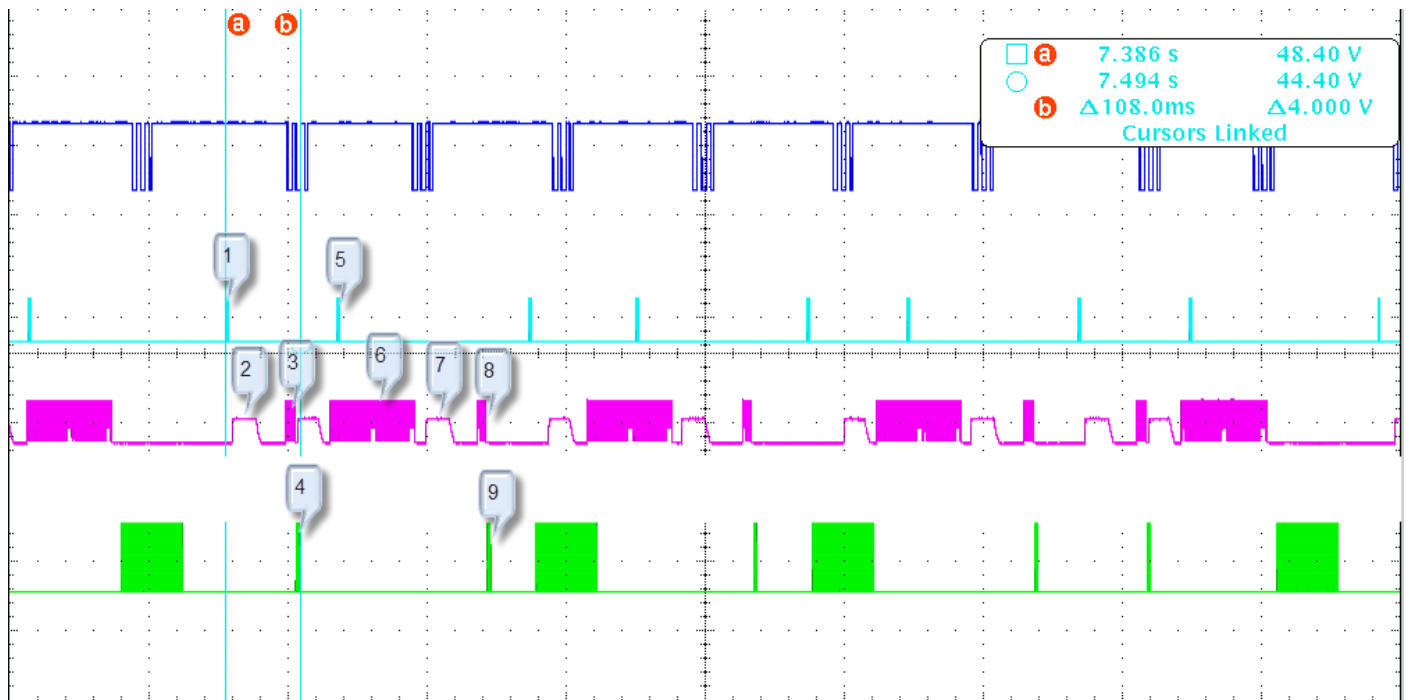

Figure 4-12 – Multiple INC/DEC during real-time
The latency introduced in the downlink of a therapy command depends on the relative timing of when the command is sent by the Host. If the command is received by the Nexus-D System while a real time telemetry command is in progress, then the Nexus-D System must wait for that command to finish which could take up to 150ms. If the Host sends the command within the wait period for the next real time telemetry command (i.e. less than 100ms after the Host received the last uplink), then the latency is minimal (See Figure 4-12 – Multiple INC/DEC during real-time).
In the example shown in Figure 4-12 – Multiple INC/DEC during real-time, (1) an INC Amplitude command is sent from the Host to the Nexus-D System with a single step and no repeats. (2) The command is sent from the Nexus-D System to the Activa PC+S. (3) the response is sent from the Activa PC+S to the Nexus-D System. (4) The response is sent from the Nexus-D System to the Host. Notice that the time from the Host sending the command (1) to the Host receiving the response (4) is 108ms. Then the Host sends a second INC amplitude command (5), but the Nexus-D System is busy receiving the next real-time packets from the Activa PC+S (6). When the real-time packet has been received by the Nexus-D System, it sends the INC amplitude command to the Activa PC+S (7). The INC amplitude response is received by the Nexus-D System (8). The INC amplitude response is sent to the Host (9). For the second INC, the time from the Host sending the command (5) to the Host receiving the response (9) is more than 200ms.